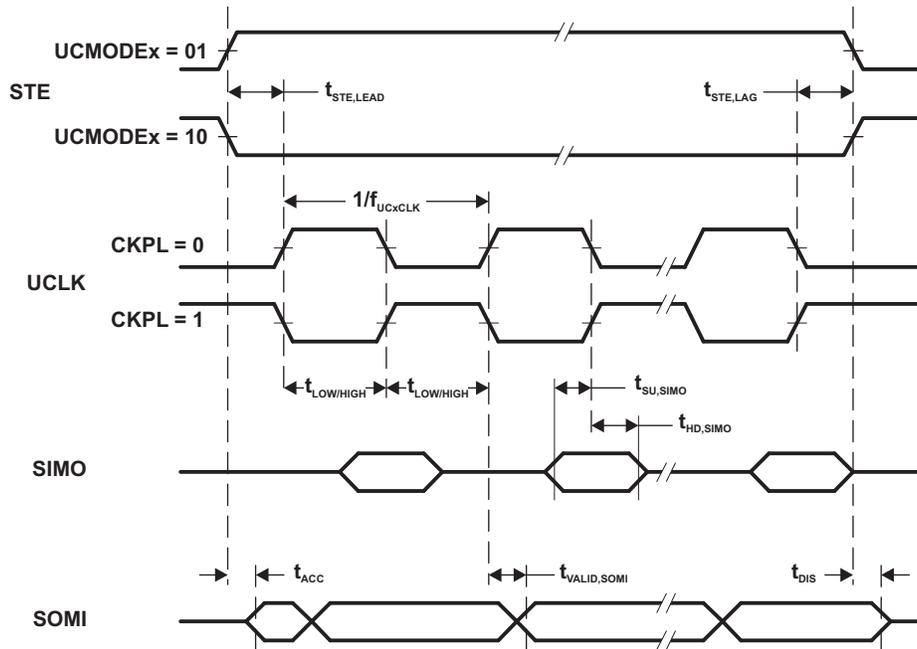
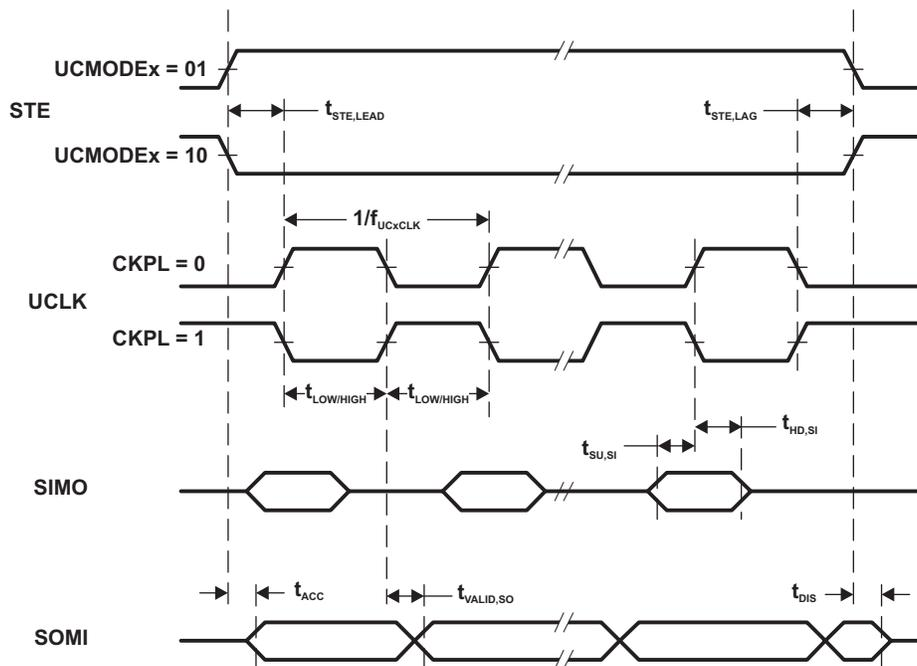

Figure 14. SPI Slave Mode, CKPH = 0
Figure 15. SPI Slave Mode, CKPH = 1
- (1)  $f_{UCxCLK} = 1/2t_{LO/HI}$  with  $t_{LO/HI} \geq \max(t_{VALID,MO(Master)} + t_{SU,SI(eUSCI)}, t_{SU,MI(Master)} + t_{VALID,SO(eUSCI)})$ . For the master's parameters  $t_{SU,MI(Master)}$  and  $t_{VALID,MO(Master)}$  refer to the SPI parameters of the attached slave.
- (2) Specifies the time to drive the next valid data to the SOMI output after the output changing UCLK clock edge. See the timing diagrams in Figure 14 and Figure 15.
- (3) Specifies how long data on the SOMI output is valid after the output changing UCLK clock edge. See the timing diagrams in Figure 14 and Figure 15.